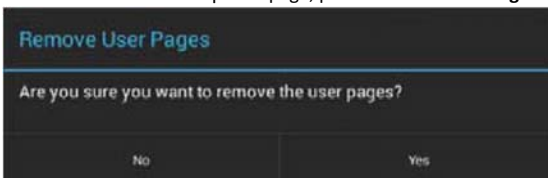

FIG. 140 Remove User Pages prompt
1. In the Reset and Update page, press **Remove User Pages** to open the Remove User Pages window (FIG. 140).